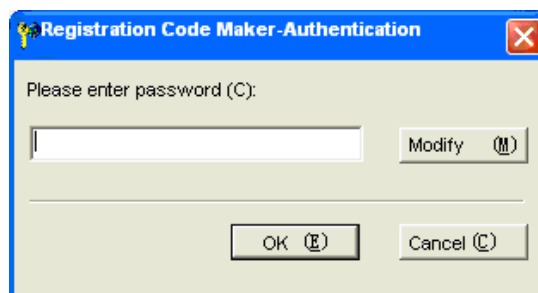
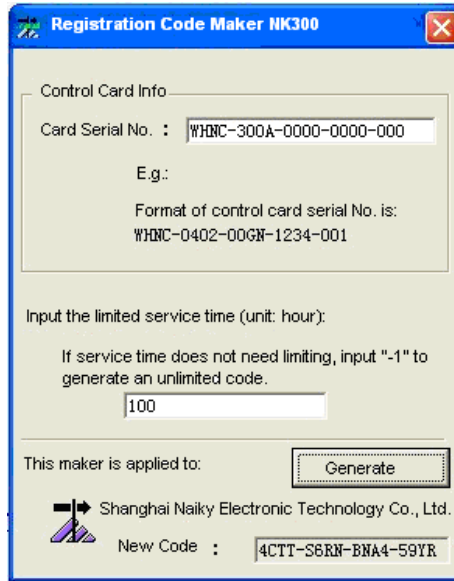

Fig. 3-78 Registration code maker-1
Fig. 3-79 Registration code maker-2
- 2) Double click registration code maker “GetRegCode.exe”, and then enter the password “ncstudio” (revisable) in the dialog box as shown in Fig. 3-78. Then press “ok”, input control card serial number and limited service time, and then click “generate” to generate the new code displayed at the lower part, as shown in Fig. 3-79. If service time does not need limiting, input “-1” in the “limited time” bar to generate an unlimited code.